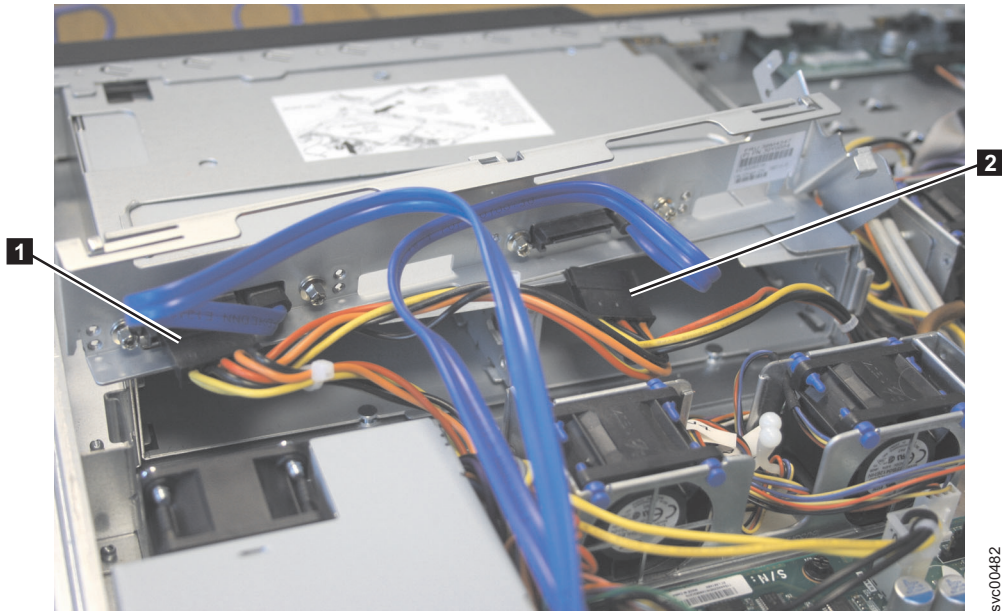

Figure 100. SAN Volume Controller 2145-8A4 power supply connectors
2. Connect power cable connectors P2 **1** and P3 **2** to the replacement back plate, as shown in Figure 100 on page 118.